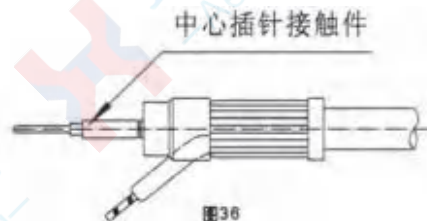

图36
④ As shown in Figure 36, proceed as follows: